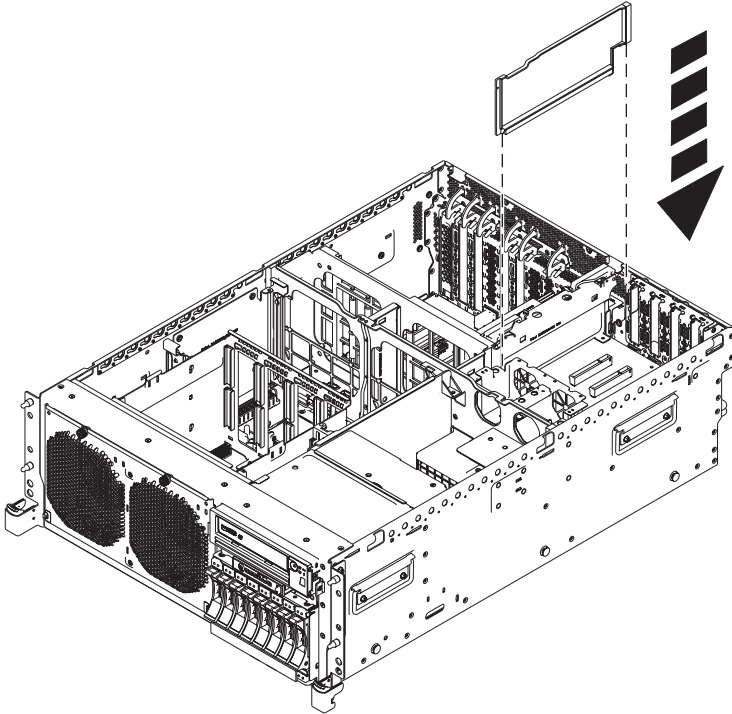

Figure 49. Replacing the PCI riser air divider
- a. Lower the PCI-riser air divider and press it into place. See Figure 49 on page 72.